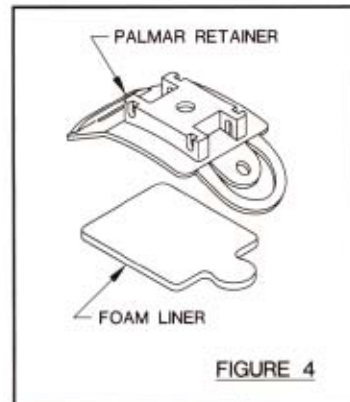

FIGURE 4
- 4 Apply foam liner to underside of palmar retainer see **Figure 4** page 7.